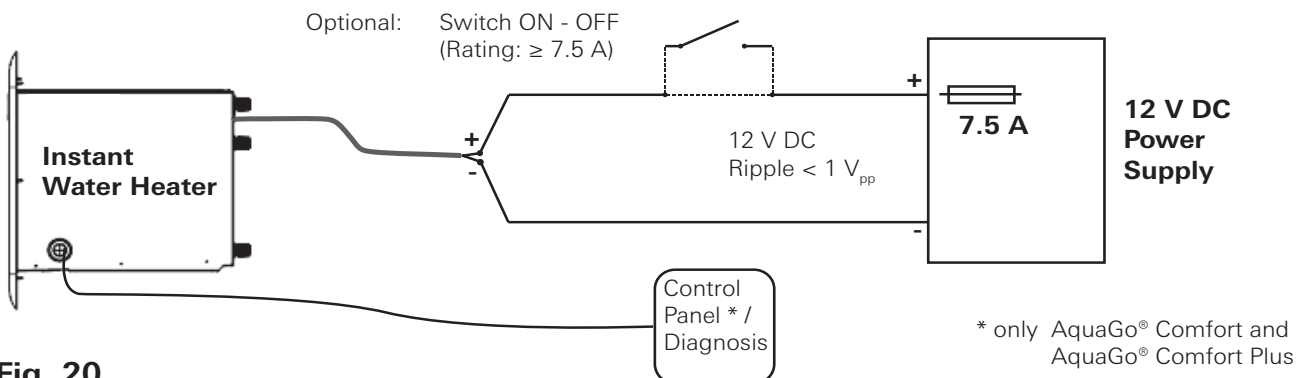

Fig. 20
- Connect the electrical lines with the proper polarity to the 12 V DC power supply. Refer to “Electrical connection for all models” on page 31). Install a 7.5 A fuse (see Fig. 20).